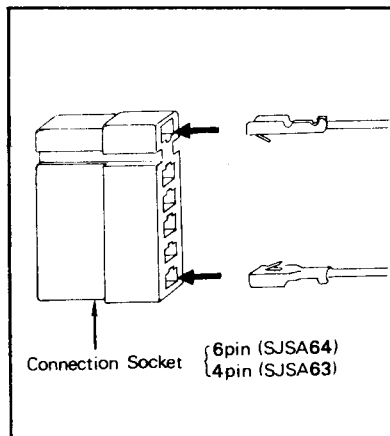

Fig. 2
3. Insert the lead wire pin clamp, to which the lead wire has been attached, into the connection socket. (See fig. 2)